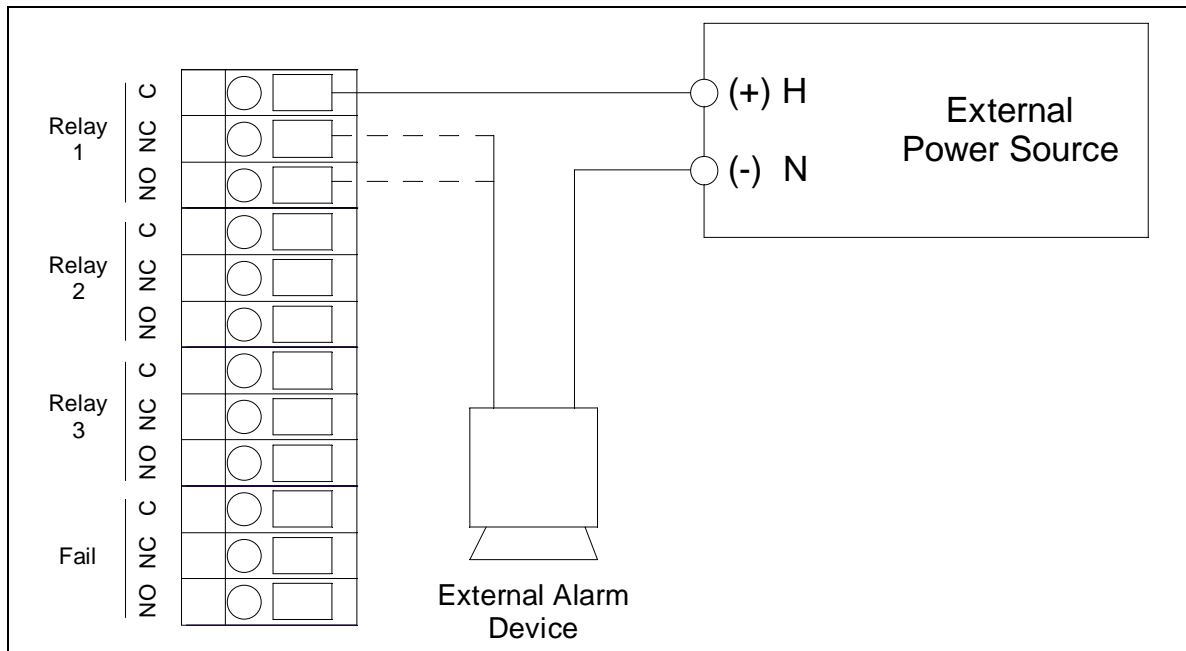

Figure 24: Wiring to the Main and Fail Relays
- Connect the leads from the external alarm device and an external power source to the selected main or fail relay terminals as shown in Figure 24.